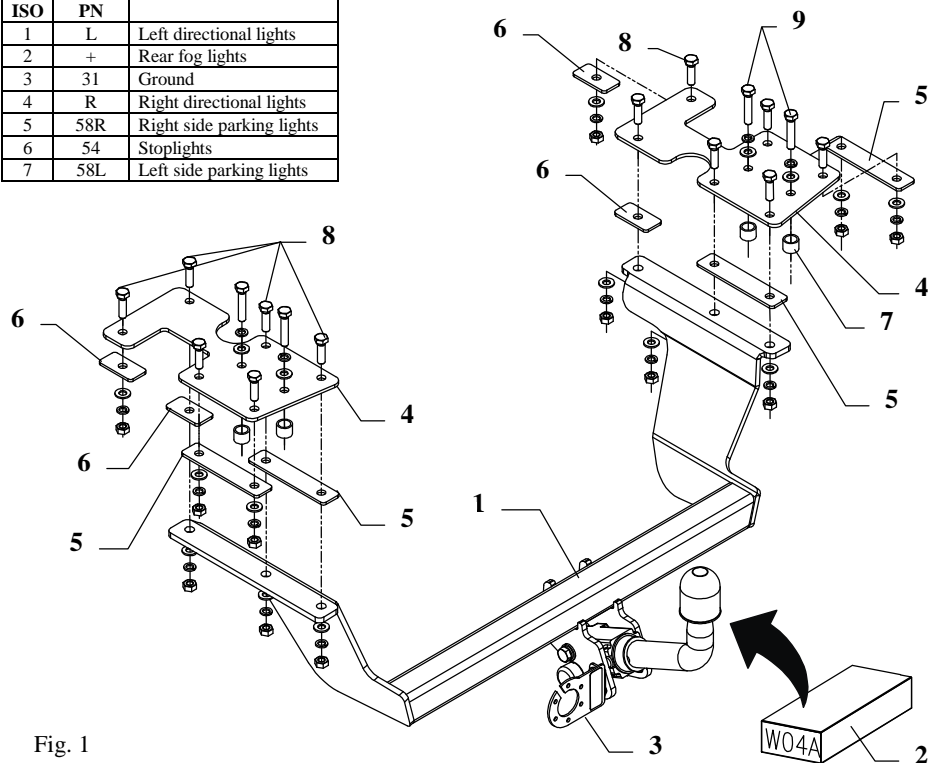
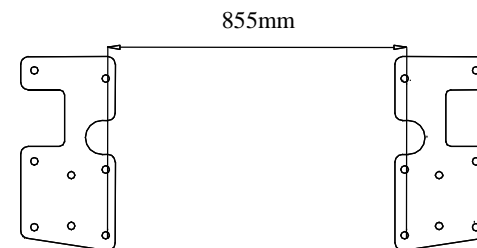

Fig. 1
Fig. 2
- Apply fish-plates (pos. 4) such way, so holes, in which enter bolts M10x1,25x50mm (pos. 9) overlapped on holes, which were previously unscrewing bolts fastening arms of the bumper. Then marked the contour of fish-plates and after this put aside fish-plates – inside contours remove the anti-noise layer. Put fish-plates (pos. 4) in this way, so holes for bolts M10x1,25x50mm (pos. 9) agree with holes after disassembly of towing hitch brackets. Mark contour of the fish—plates, next take them of and remove protective layer from inside of contour.
- On holes fastening arms of the bumper put distance sleeves L=16mm (pos. 7). Then apply again fish-plates (pos. 4) and fix with bolts M10x1,25x50mm (pos. 9) as showed on the fig. 1.
- Attention! Make sure whether fish-plates lay as one showed on the fig. 2.**
- By remaining holes of fish-plates (pos. 4) drill through holes $\varnothing 10,5\text{mm}$. Then into all holes insert bolts M10x35mm (pos. 8).
- From the bottom of the car on protruding bolts put distance washers (pos. 5 and 6) and the main bar of the towing hitch (pos. 1) and fix as showed on the fig. 1.
- Fix body of the automat and place tow-ball according to supplied instruction. Note! Remember to place socket plate (pos. 3) as shown on the drawing 1.